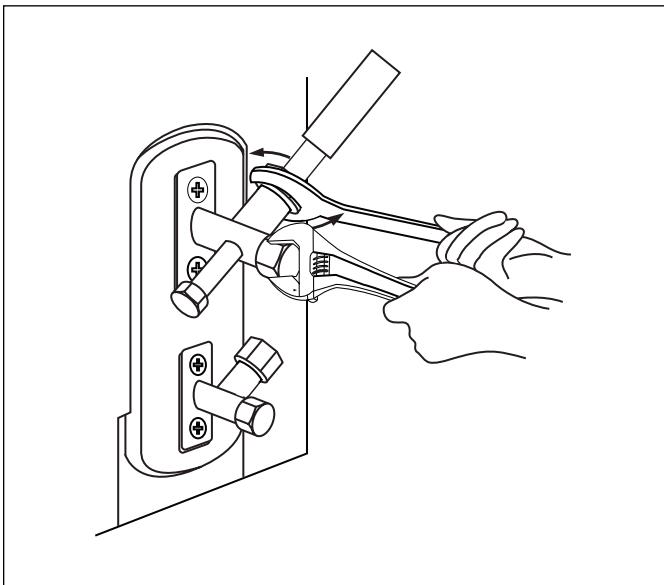

Figure 40
- Using a wrench, hold the body of the valve. Do not grip the nut that seals the service valve. See Figure 40.